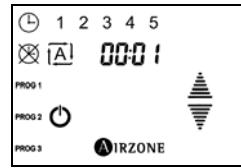

Fig. 30 - Select the finishing time
- 10) Select the minutes of the finishing time using the selection arrows and confirm by pressing on the AIRZONE icon once (Fig. 30).